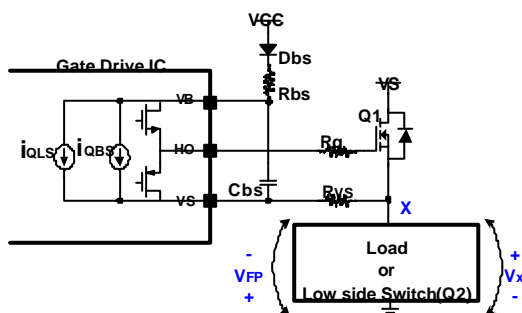
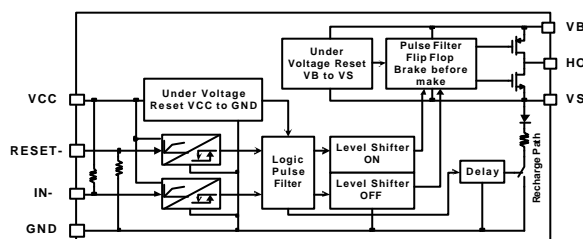
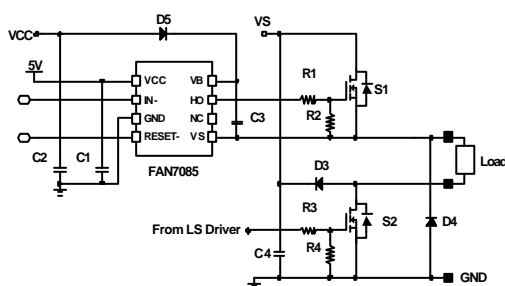

figure 1. Bootstrap Circuit
Figure 2. Internal block diagram of FAN7085
Figure 3. Application example of FAN7085
Using a N channel MOSFET as a high side switch requires a voltage supply referenced at the source of the MOSFET. One of the most widely used method in supplying power to the high-side circuitry is the use of the bootstrap floating supply due to its inherent simplicity and inexpensive features. This kind of floating supply is suitable for providing a gate drive circuitry to directly drive high side switches that operate up to rail voltages. The basic circuit of the bootstrap supply, shown in Figure 1, is formed by a diode (Dbs) and a capacitor (Cbs). But, this type of floating supply has limitations on refreshment of Cbs when duty cycle is very high or turn-on time is very long. In the case where the gate voltage is not enough to fully turn-on the MOSFET (Q1), the output of gate drive IC (HO) should be turned-off to prevent the Q1 from operating in high dissipation mode. The optional gate resistor (Rg) is used for the purpose of controlling the turn-on/turn-off time of the Q1, and the bootstrap resistor (Rbs) is used to limit the current and prevent the bootstrap capacitor (Cbs) from overcharging.
start-up phase can be defined by the time constants R_{bs} , R_{vs} , and C_{bs} . When the load is connected and forms the charge path in the bootstrap circuit, the initial charging time is defined by C_{bs} and the relationship between R_{bs} , R_{vs} , and the load impedance R_L . Most designs, the value of C_{bs} is picked with some margins, which leads to longer start-up time. If node X is left floating for a long time, V_{bs} will decrease due to leakage current, and consequently the gate drive IC will go into UVLO condition. Controlling the low side switch properly, the bootstrap capacitor can be recharged and maintain the voltage level needed by the gate drive IC. The gate drive IC FAN7085 (block diagram shown in Fig.2) has a built-in recharge switch that will charge the bootstrap capacitor regardless of the application. If Q1 is turned off and FAN7085 is used as a gate drive IC in the bootstrap circuit shown in Figure 1, the internal recharge switch of the FAN7085 will activate to provide the path to charge the bootstrap capacitor (C_{bs}) fully. Let's look at a specific application of the FAN7085, which is shown in Figure 3. In the event that both of the switch (S1 and S2) are turned off, the internal recharge switch of the FAN7085 will provide the path to charge the bootstrap capacitor. If the current level passing through the recharge switch is higher than the leakage current, bootstrap capacitor will charge through the recharge path. The voltage level on the VS pin of the FAN7085 at a given current level when the recharge switch is turned on is defined on the datasheet.